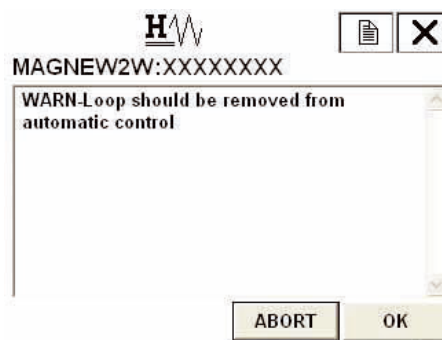

Figure 7-50
3. Select the manual zero, then the screen as shown in Figure 7-50 appears.